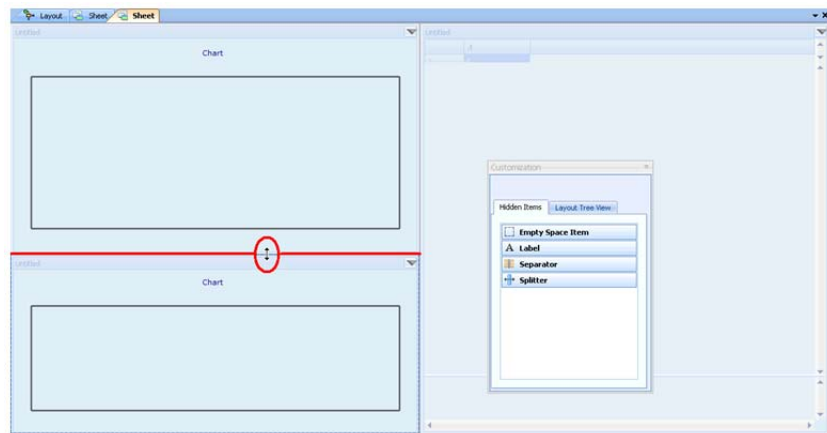

Figure 5.22 Re-size objects in a Sheet in 'Design Mode'
- *objects* may also be resized, by moving their edges (Figure 5.22)